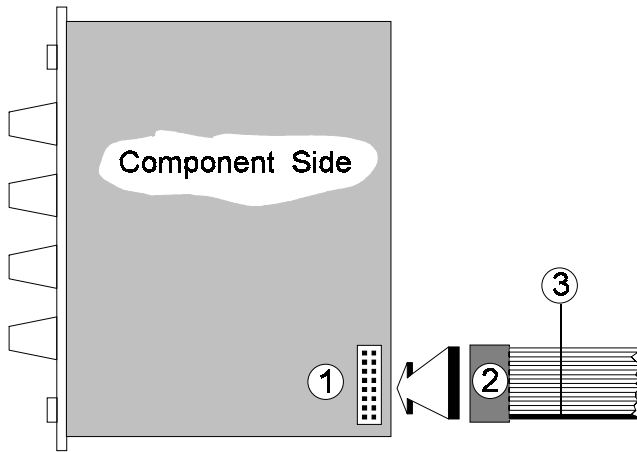

Fig. 2: Connecting the ribbon cable to the module
- Plug the supplied **ribbon cable** into the module's **bus socket** (see ① in Fig. 2). As a rule, the cable is 16-way, but some modules only have a 10-way cable. Look carefully at the cable, and then press the appropriate connector onto the module's bus pins (see ② in Fig. 2).
Check very carefully that it is connected so that the coloured marking on the ribbon cable is at the bottom of the module's connector (see ③ in Fig. 2), and that the connection is perfect, and **pushed fully home, not at a slight angle**. Failure to check this may result in the module's instant destruction as soon as the power is turned back on.